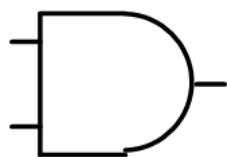

Figure 3.19a: Two input AND gate
- 2. The AND gate:** The AND gate consist of two or more inputs terminals and a single output terminal as shown in figures 3.19a and 3.19b.